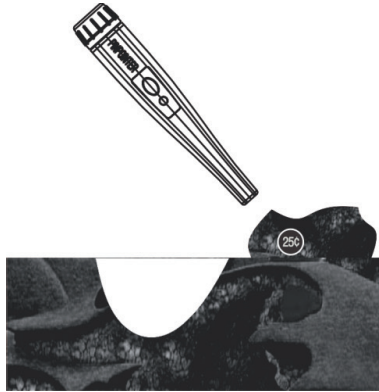

Fig. 6
3. If the object is buried deeply and beyond the detection range of the pinpointer you should use the metal detector to scan it again. After determining the position you can begin to dig. You should scan the object what is dug out in the first and determine whether the object is already in the soil or if it has been dug out (see Figure.6).